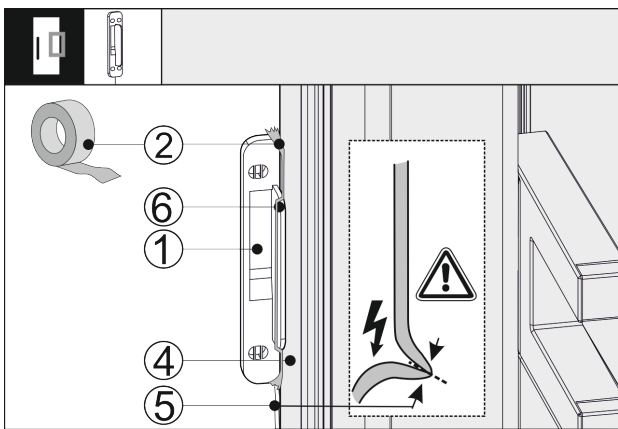

Fig. 41
- ▶ Place the knocking sensor Fig. 41 (1) on the side on the appliance door Fig. 41 (4) so that the limit stop Fig. 41 (6) is touching the appliance door Fig. 41 (4). The sensor cable Fig. 41 (5) is tensioned slightly and is also touching the appliance door Fig. 41 (4).
- ▶ Attach the knocking sensor Fig. 41 (1) with adhesive tape Fig. 41 (2). The knocking sensor is screwed to the unit front at a later point.